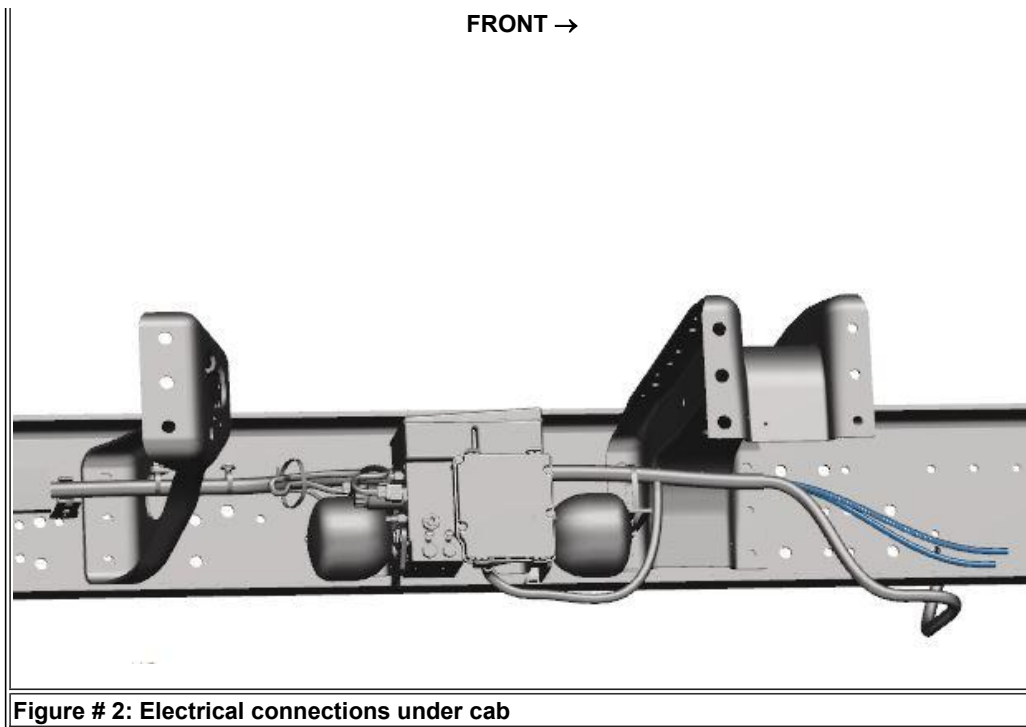

**Figure 1 #: Bulk Head Ground Studs**
1. Locate bulkhead ground studs. Reference Figure 1 highlighted in blue